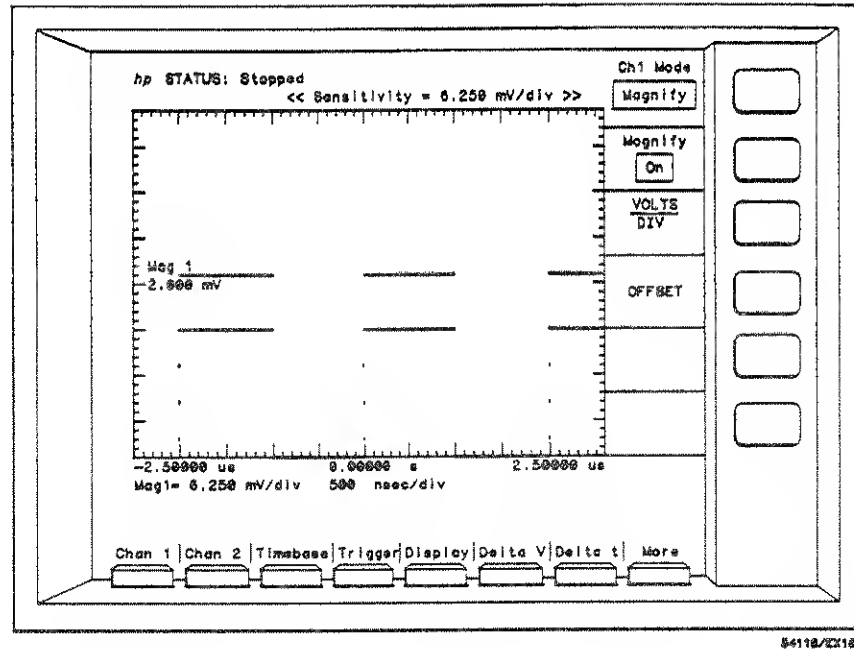

Figure 7-21. Magnify Using Normal Mode
7. Turn magnify on (see figure 7-21).